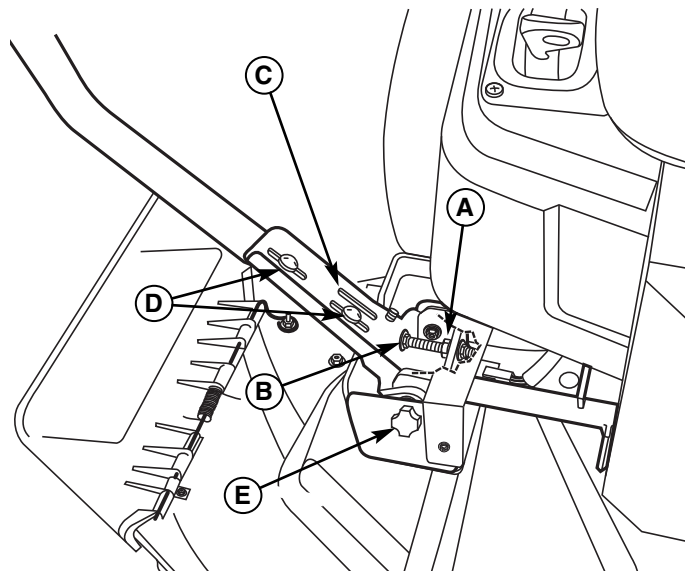
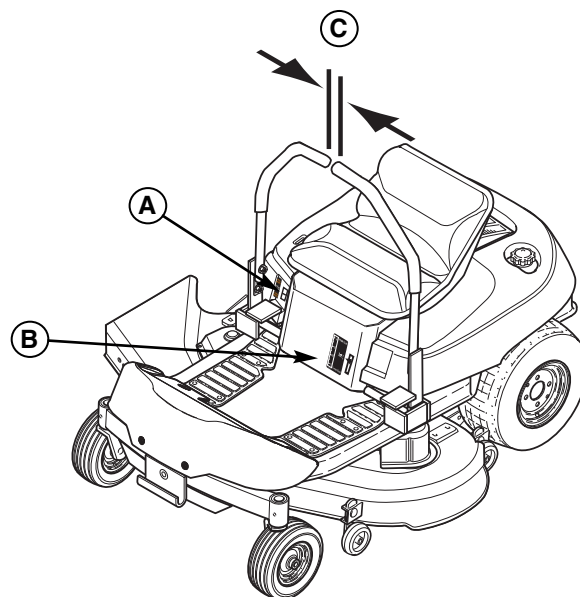

Figure 44. Control Lever Adjustment
Figure 45. Cutting Height Adjustment
To Adjust Control Lever Height: Pull the levers in across the operator's lap to their DRIVE positions. Loosen the mount bolts (D, Figure 44) and raise or lower the levers to the desired position. Tighten the mounting bolts.(D).
To Adjust Control Lever End Gap: The control lever end gap (C, Figure 45) should be adjusted so that the levers do not contact each other when placed in DRIVE positions. Loosen the jam nut (A, Figure 44) and adjust the length of the carriage bolt (B) so that the levers do not contact each other. Repeat on the opposite side. Tighten the jam nut (A) to lock the carriage bolt in position.
To Adjust Operator Clearance: The space between the operator and the control levers can be increased by removing the lower mounting bolt (D, Figure 44), pivoting the lever forward, and reinstalling the capscrew through the control lever and forward slot (C). Repeat with the other ground speed lever.
If the rider veers to the right or left when the ground speed control levers are in the maximum forward position, the top speed of the right lever can be balanced by turning the adjustment knob (E, Figure 44). Loosen the jam nut and turn the knob COUNTERCLOCKWISE to increase speed or CLOCKWISE to decrease speed. Tighten the jam nut when complete.
To increase the mower cutting height (raise the mower deck), press the top of the mower cutting height switch (A, Figure 45). To decrease mower cutting height (lower the mower deck), press the bottom of the switch. Mower cutting height range is 3-3/4" to 1-1/2". The cutting height gauge indicates the position of the mower deck. The cutting height gauge (B) is located on the front of the rider, just behind the driver's left leg.